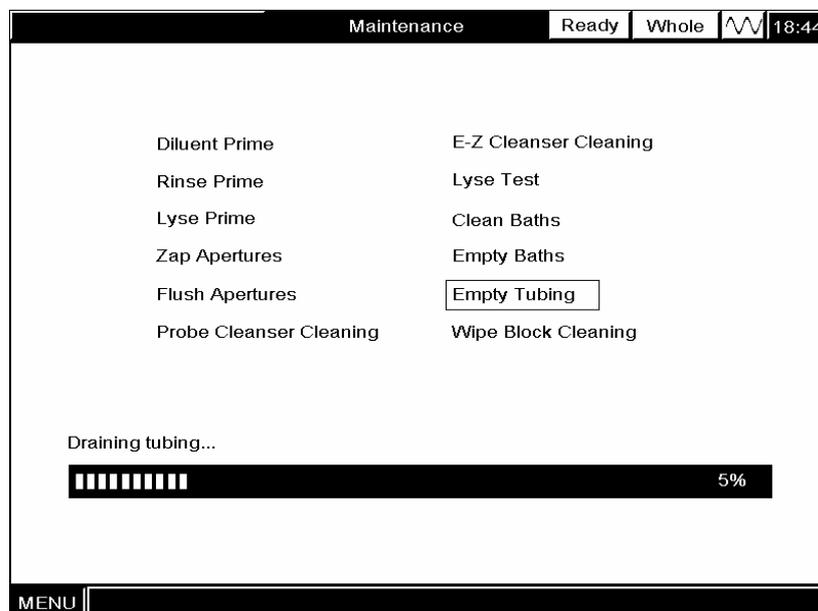

Figure10-22 Draining the fluidic lines
2. Follow the displayed instructions to remove the diluent, rinse and lyse pickup tubes from this analyzer and then press [ENTER] to start the draining process, Figure10-22.